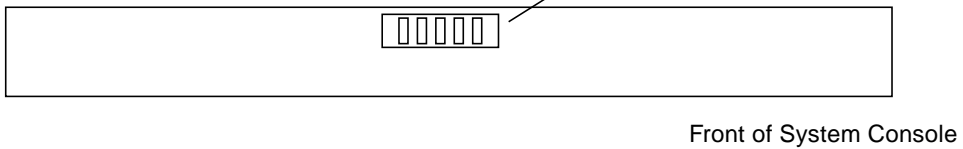

FIGURE 1-2 System Console Cover Latches
3. There is one screen latch on each side of the System Console, as shown in FIGURE 1-2. Slide the latches and lift the cover.